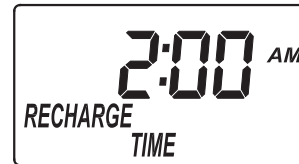

FIG. 29
1. If you completed the previous steps, the words “RECHARGE TIME” should show in the display (See Figure 29). Otherwise, press the SELECT button several times until they do.